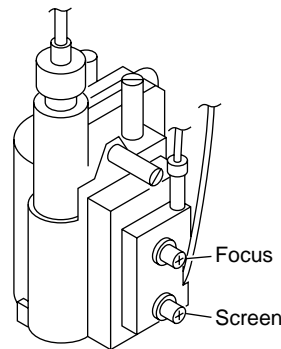

Fig.3-9
2. Focus adjustment should be balanced whole picture area (not detail), and adjust focus by [FOCUS] VR of FBT. (Fig.3-9)
4. Magenta ring should be within limit sample. (Fig.3-9)
4. Adjust to obtain just before retrace line goes out (The point where the retrace line is going to appears). (Fig.3-9)